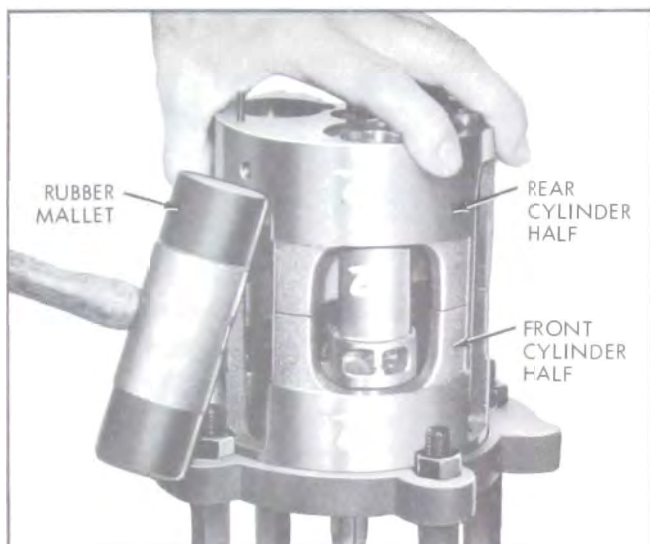

Figure 11-64—Separating Cylinder Halves
5. Separate front and rear cylinder halves, using a wood block or rubber mallet. See Figure 11-64. Rotate swash plate so that discharge tube does not contact it. A 9/16" open end wrench may be used on the shaft seal area of shaft to rotate swash plate.